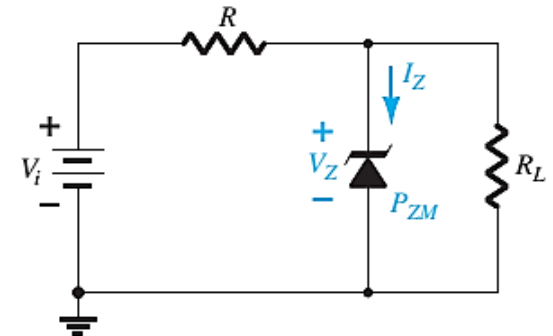

FIG. 2.112
- The simplest of Zener diode regulator networks appears in Fig. 2.112. The applied dc voltage is fixed, as is the load resistor. The analysis can fundamentally be broken down into two steps.